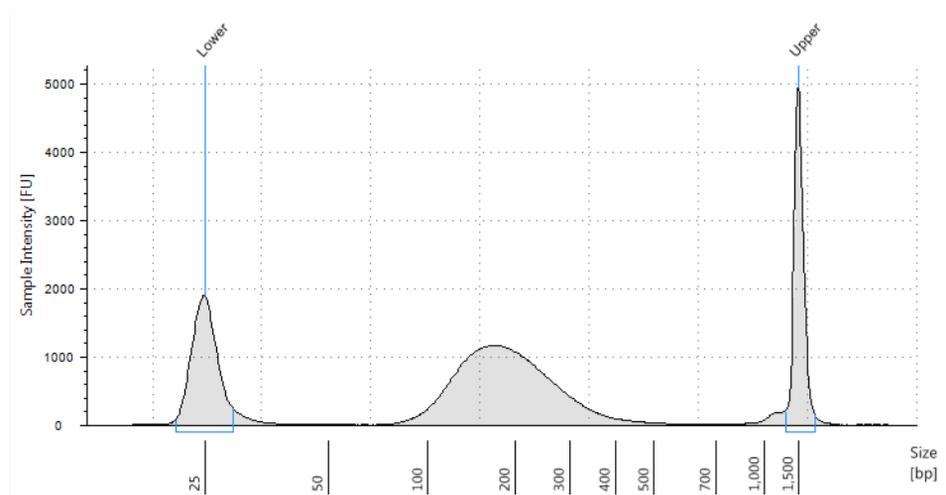

Figure 7 Analysis of end-repaired DNA using a D1000 ScreenTape.
- 3 Verify that the electropherogram shows a DNA fragment size peak between 125–175 bp. A sample electropherogram is shown in Figure 7.